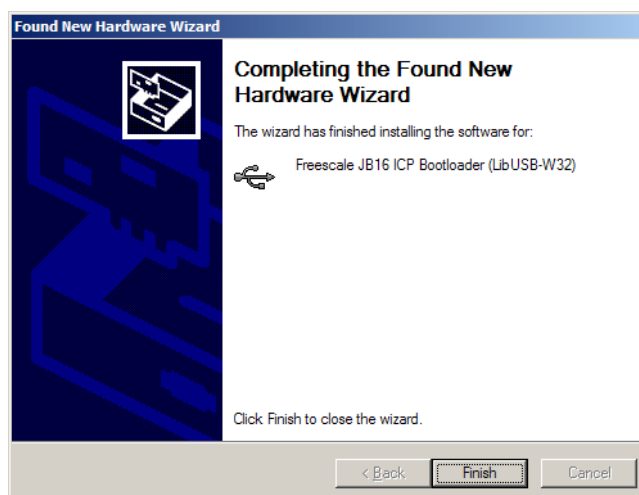

FIGURE 10. Drivers for In-Circuit Programming (ICP) mode installed
5. After the driver files are copied the interface is ready to be programmed with firmware (see figure 10).